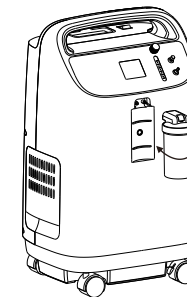

Figure 9
- › (1)Turn the humidifier bottle counterclockwise. (Figure 9).
- › (2)Pull out the humidifier tube and the humidifier filter element.